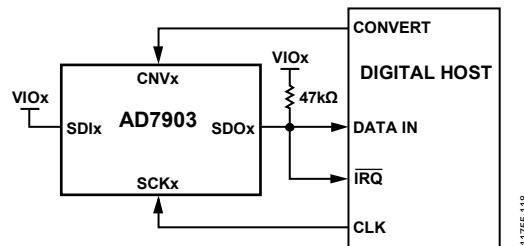
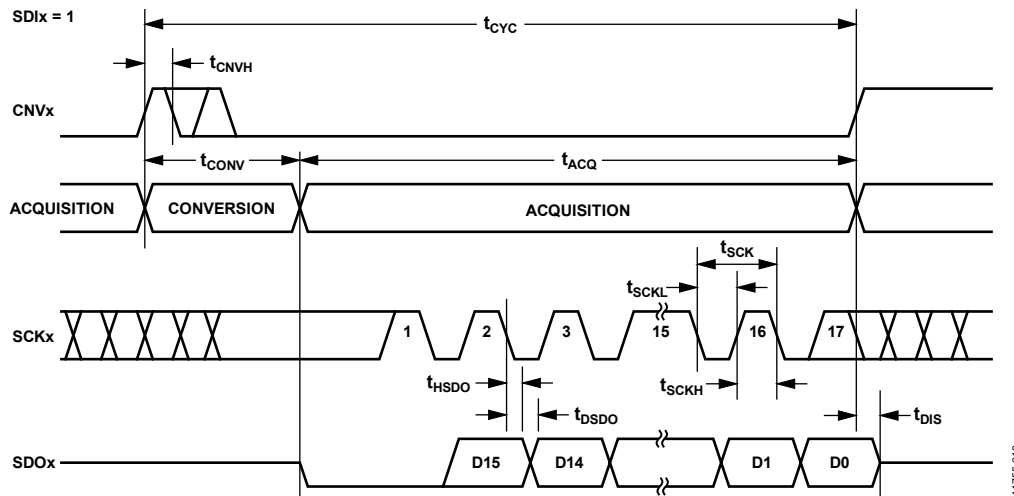
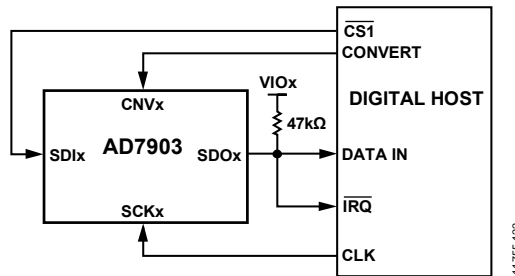
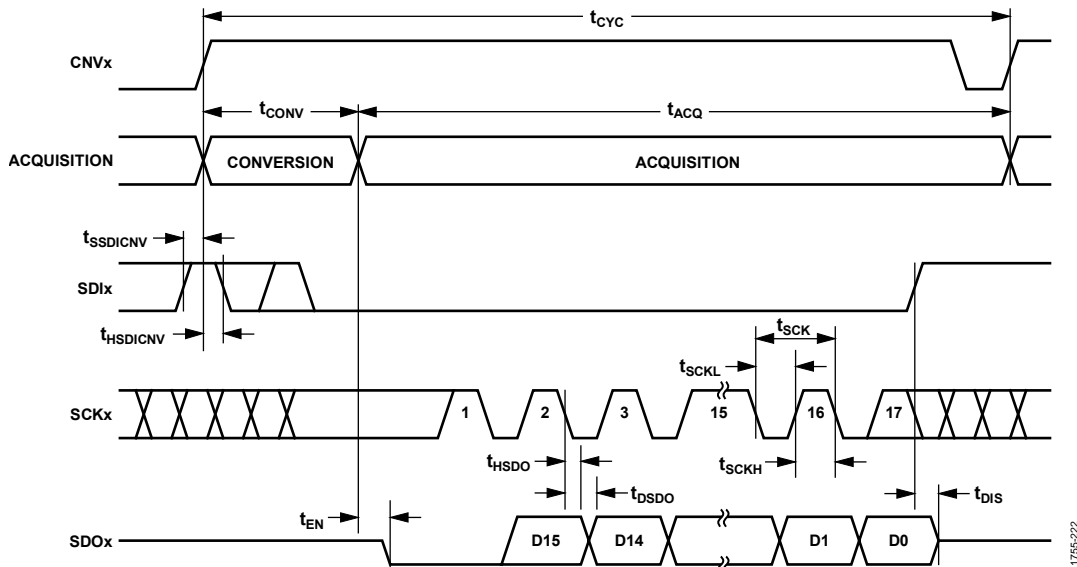

Figure 41.  $\overline{CS}$  Mode, 3-Wire Interface with Busy Indicator Connection Diagram ( $\overline{SDIx}$  High)
Figure 42.  $\overline{CS}$  Mode, 3-Wire Interface with Busy Indicator Serial Interface Timing ( $\overline{SDIx}$  High)
Figure 45.  $\overline{CS}$  Mode, 4-Wire Interface with Busy Indicator Connection Diagram
Figure 46.  $\overline{CS}$  Mode, 4-Wire Interface with Busy Indicator Serial Interface Timing
- In  $\overline{CS}$  mode if CNVx or SDIx is low when the ADC conversion ends (see Figure 42 and Figure 46).
The connection diagram is shown in Figure 41, and the corresponding timing is shown in Figure 42.
The connection diagram is shown in Figure 45, and the corresponding timing is given in Figure 46.